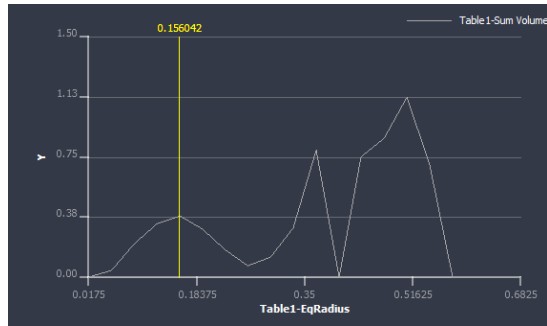
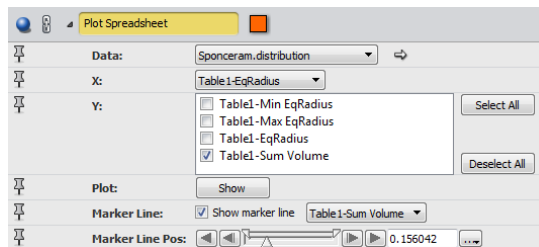

Figure 24.20: Pore Size Distribution
Figure 24.21: Plot SpreadSheet
- The distribution curve as shown in Figure 24.20 is displayed using a *Plot Spreadsheet* module (see Figure 24.21). The plot shows that the majority of the pore space is filled by big pores, but the predominant small pores have a radius around 0.15.